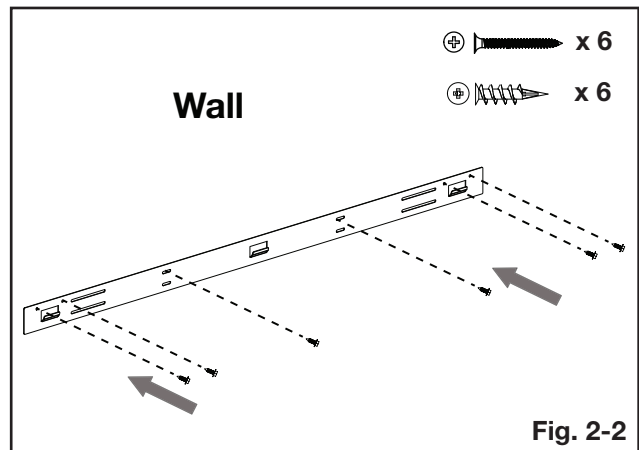

Fig. 2-2
4. Mark out the location, then mount the bracket onto the wall using screws (supplied). This bracket **MUST** have the hooks facing upward and it **MUST** be level (**Fig. 2-2**).